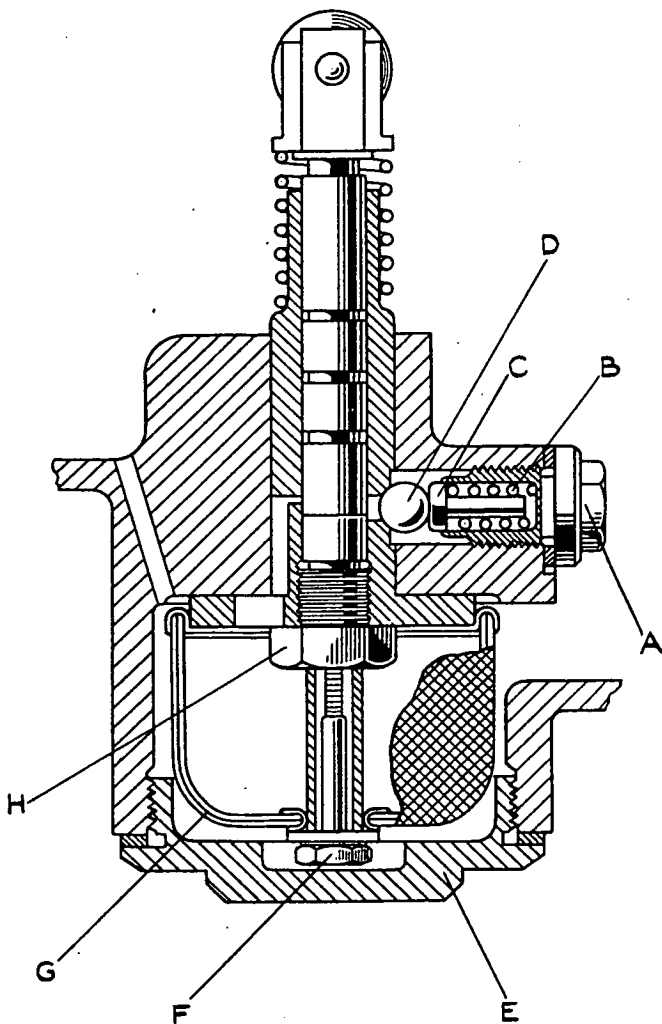

Fig. 81. Section view of oil pump showing the non-return valve
Remove the drain plug (E) Fig.81 and allow the
The pump valve plug 'A' Fig.81 can now be removed with a box spanner followed by the spring, plunger and ball.
(Figs. 81, 82 & 83.)